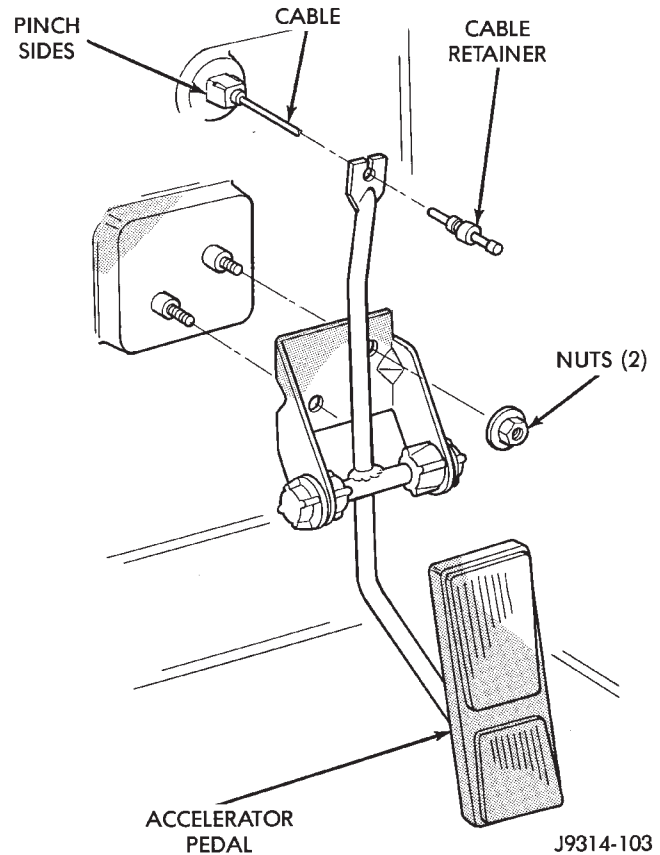

Fig. 36 Accelerator Pedal—Removal or Installation
- (1) From inside the vehicle, hold up accelerator pedal. Remove plastic cable retainer and throttle cable core wire from upper end of pedal arm (Fig. 36). Plastic cable retainer snaps into pedal arm.
- (2) Remove two accelerator pedal/bracket nuts (Fig. 36) and remove pedal/bracket assembly from vehicle.
- (1) From inside vehicle, hold up accelerator pedal. Remove plastic cable retainer and throttle cable core wire from upper end of pedal arm (Fig. 36). Plastic cable retainer snaps into pedal arm.
- (2) Remove cable core wire at pedal arm.
- (3) From inside vehicle, pinch both sides of cable housing retainer at dash panel (Fig. 36). Remove